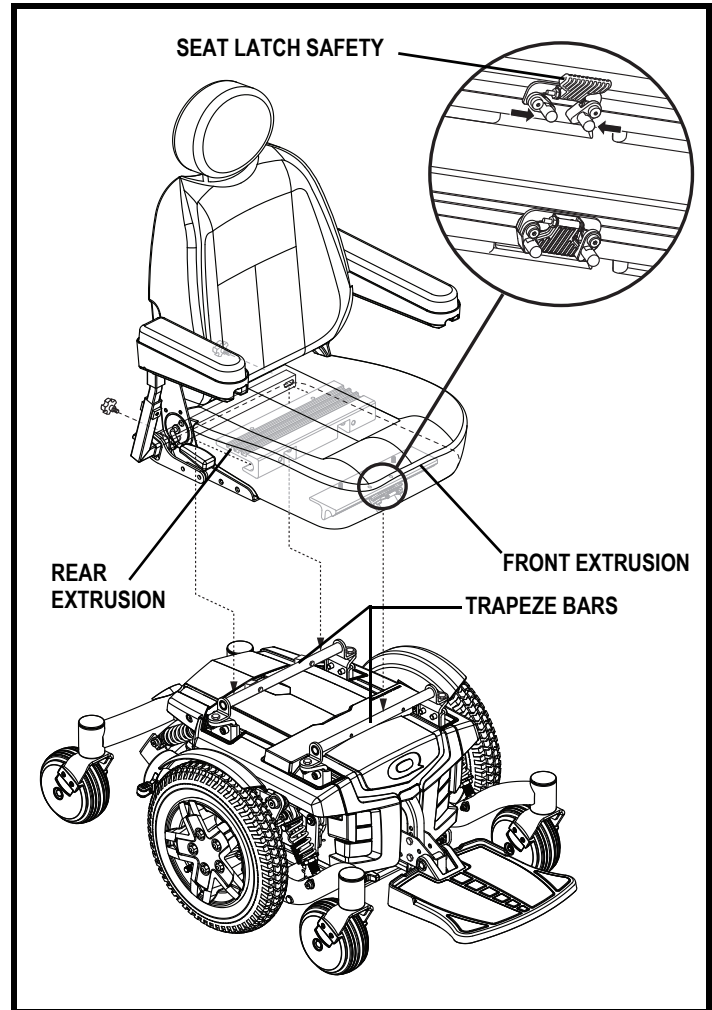

Figure 10. Universal Mounting System and Contour Seat
It may be necessary to install the seat either prior to initial operation or after transporting your power chair. Contour seats are attached to the power base with the Universal Mounting System (UMS). The UMS consists of universal parts that may be attached to the seat, regardless of seat width or seat depth. The two main components are aluminum extrusions mounted to the seat base. These extrusions attach to a pair of trapeze bars that are mounted to the power base. See figure 10.
1. Tilt the seat back and slide the rear extrusion onto the rear trapeze bar. See figure 10.
4. Flip up the seat latch safety. See figure 10.